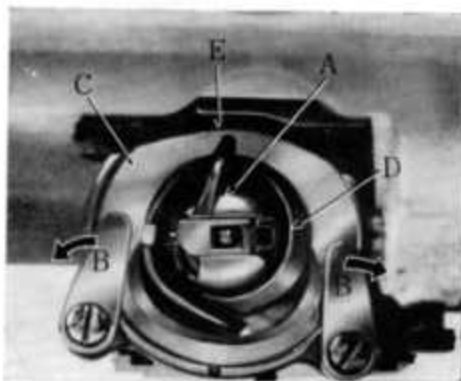

Fig. 45
2. Remove bobbin case (A), Fig. 45.
3. Turn the two shuttle race cover clamps (B) outward and remove the shuttle race cover (C) and shuttle body (D).